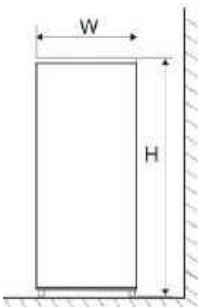
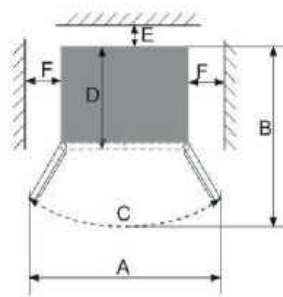

Fig.1
Fig.2
**NOTE:** Figure 1, Figure 2 only illustrate the space demand of the product